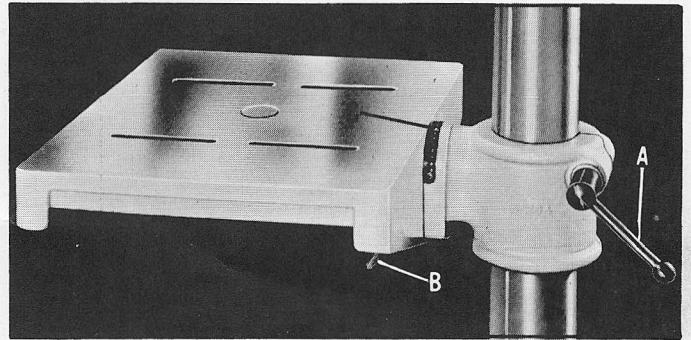

Fig. 6.
To adjust the table up or down loosen the lock bolt (A) Fig. 6, on the table bracket. Hold the table while doing so.
To tilt the table to the right or left, loosen the pivot nut located under the table, remove the pin (B), and tilt the table to the required angle and tighten the pivot nut. To set the table in the vertical position accurately, move the table to a vertical position, insert the pin (B) through one of the side holes in the apron of the table proper, and into the hole in the table bracket. Then tighten the pivot nut. To return the table to the horizontal position, loosen the pivot nut, withdraw the pin (B) Fig. 6, set the table level, then reinsert the pin through the holes and tighten the pivot nut.
The table has been designed with ledges, one on each side, to facilitate the clamping of work pieces. The table may also be tilted to any degree between horizontal and vertical positions. A scale (C) Fig. 6, is located at the rear of the table and is graduated in degrees. When the table is tilted between horizontal and vertical positions, the pin (B) must be removed. The table can be tilted either right or left.